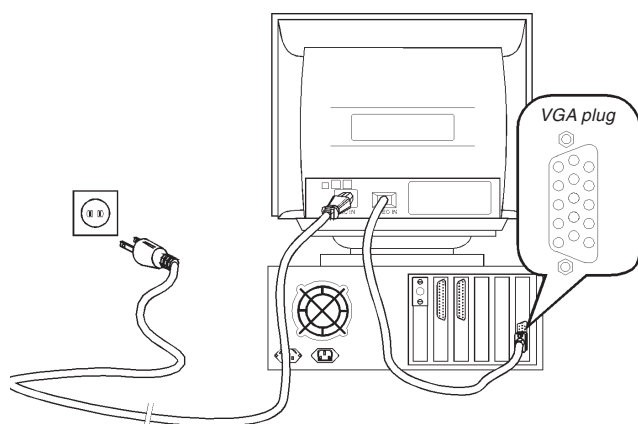

Figure 2. Connecting the Monitor to your PC
2. As shown in figure 2, connect the VGA cable to the computer and the power cable to a grounded wall outlet.